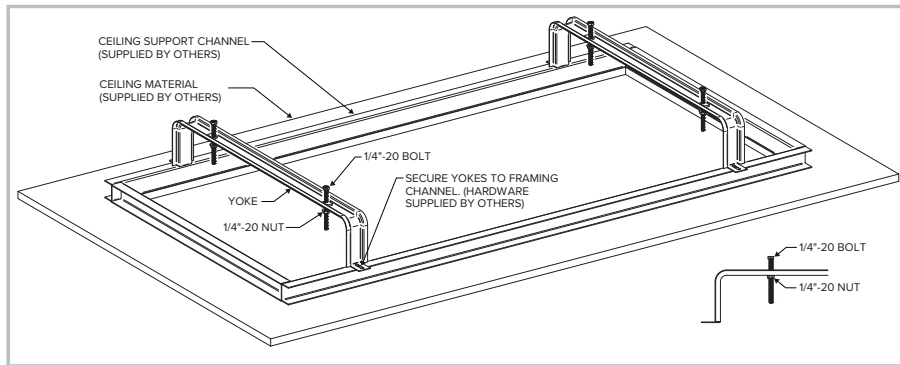
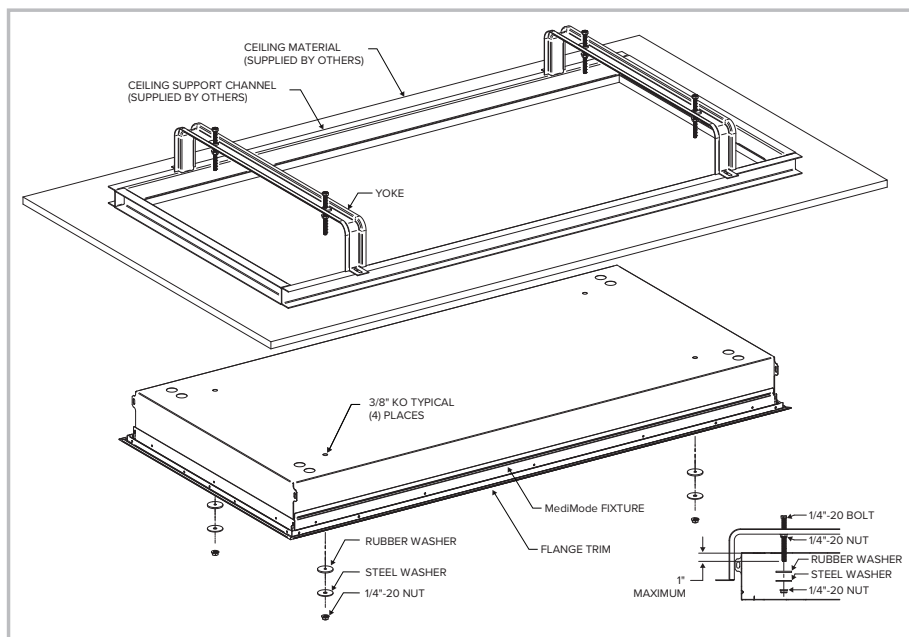

Figure 3: Yoke Mounting
Figure 4: Fixture Installation Into Hard Ceiling Material
4. Thread the 1/4"-20 bolts through the Yokes from the top as shown in **Figure 3**. Tighten the 1/4"-20 nuts onto the bolts from below until snug to the yoke face.
5. Secure Yokes to framing on plenum side of ceiling opening as shown in **Figure 3**.
6. Remove (4) 3/8" diameter knockouts on the back of the housing to align with the 1/4"-20 bolts.
8. Lift fixture into ceiling opening, ensuring the (4) 1/4"-20 bolts from Step 4 pass through the (4) housing holes produced in Step 6. Install rubber washers, steel washers, and 1/4"-20 nuts as shown in **Figure 4**.
9. Tighten the (4) nuts sufficiently to draw fixture up and create full surface contact of the fixture Flange Trim to the ceiling opening.